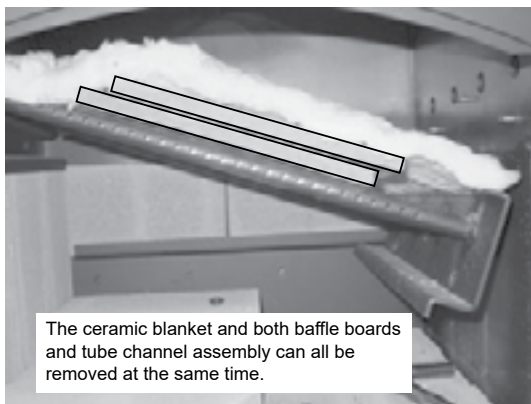

Figure 25.2
4. Slide the tube channel assembly to the left as far as it will go and lower the right side. Remove the baffle boards and ceramic blanket together (**Figure 25.2**).